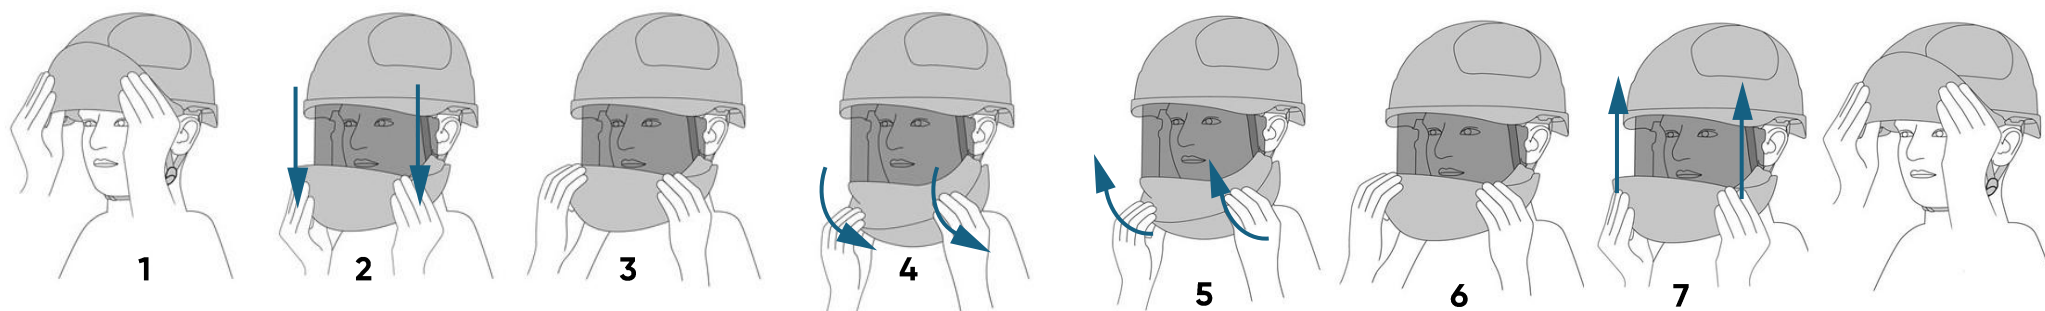

Fig. 7
1. To lower (open) the face shield (Fig. 7), gently grasp it with both hands, thumbs on the inside (1), and pull (2) until it fully extends outside the helmet (3), then rotate the chin protector by pulling it towards yourself (4) until the chin hinges click into place.
2. To raise (close) the face shield, first rotate the chin protector (5) until the chin cover clicks into place (6), and then slide the face shield into the helmet by pushing it upwards (7).